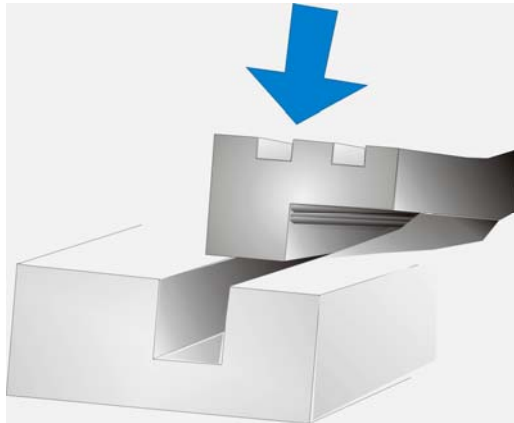

Figure 4-1: Gasket Replacement
**Step 8:** Attach the new gasket to the monitor. Make sure the gasket fits precisely into the groove along the edges of the monitor's front panel (**Figure 4-1**).